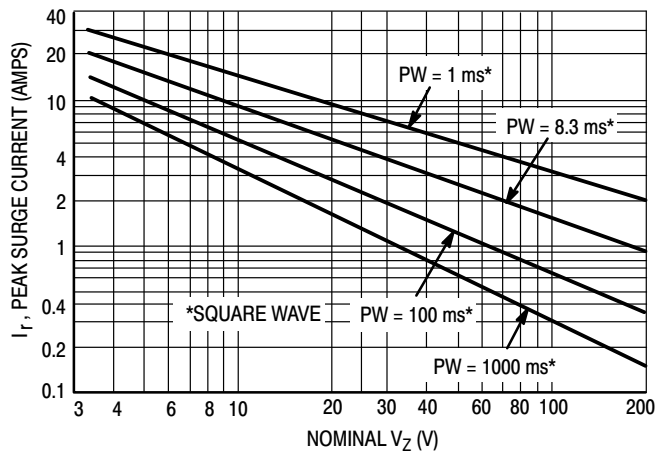
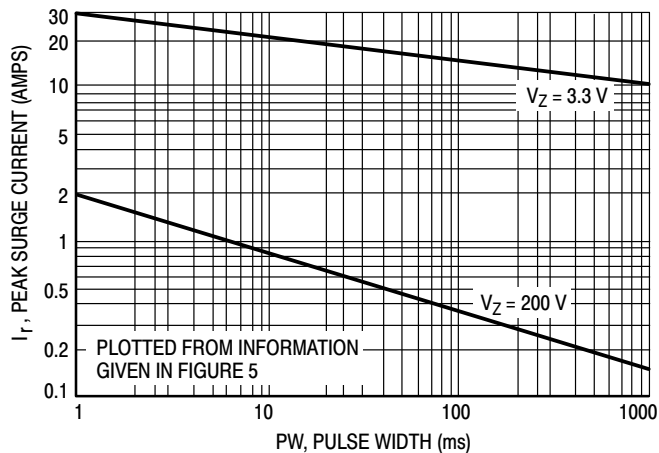

Figure 5. Maximum Non-Repetitive Surge Current
Figure 6. Peak Surge Current versus Pulse Width
- SURGE CURRENT (I_R):** Surge current is specified as the maximum allowable peak, non-recurrent square-wave current with a pulse width, PW, of 8.3 ms. The data given in Figure 5 may be used to find the maximum surge current for a square wave of any pulse width between 1 ms and 1000 ms by plotting the applicable points on logarithmic paper. Examples of this, using the 3.3 V and 200 V zener are shown in Figure 6. Mounting contact located as specified in Note 2 ($T_A = 25^\circ\text{C} + 8^\circ\text{C}, -2^\circ\text{C}$).
- SURGE CURRENT (I_P):** Surge current is specified as the maximum allowable peak, non-recurrent square-wave current with a pulse width, PW, of 8.3 ms. The data given in Figure 5 may be used to find the maximum surge current for a square wave of any pulse width between 1 ms and 1000 ms by plotting the applicable points on logarithmic paper. Examples of this, using the 3.3 V and 200 V zener are shown in Figure 6. Mounting contact located as specified in Note 7 ($T_A = 25^\circ\text{C} + 8^\circ\text{C}, -2^\circ\text{C}$).
Data of Figure 4 should not be used to compute surge capability. Surge limitations are given in Figure 5. They are lower than would be expected by considering only junction temperature, as current crowding effects cause temperatures to be extremely high in small spots resulting in device degradation should the limits of Figure 5 be exceeded.